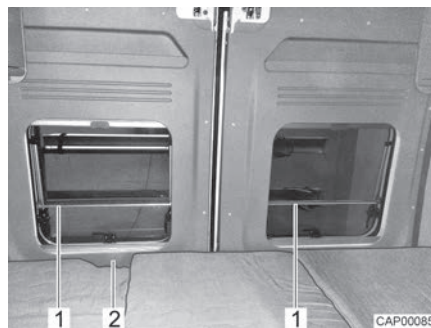

Fig. 38 Fall out protection (longitudinal rear bed)
- ▷ The windows of the rear doors are equipped with a fall out protection (Fig. 38,1). The garage door can always be unlocked from the interior via the opening (Fig. 38,2).